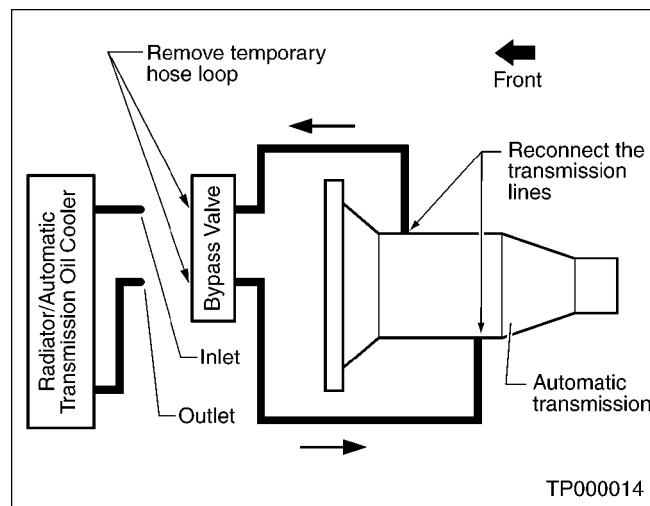

Figure 7
8. Re-connect the transmission lines and remove the temporary hose loop (see Figure 7).